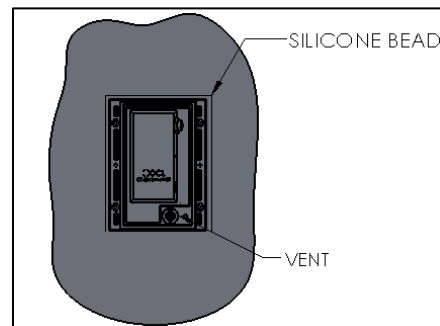

FIG. 9- SILICON BEAD INSTALLATION
5. Apply **SILICONE BEAD** around the top and sides of the BACK PLATE as shown in FIG 9.